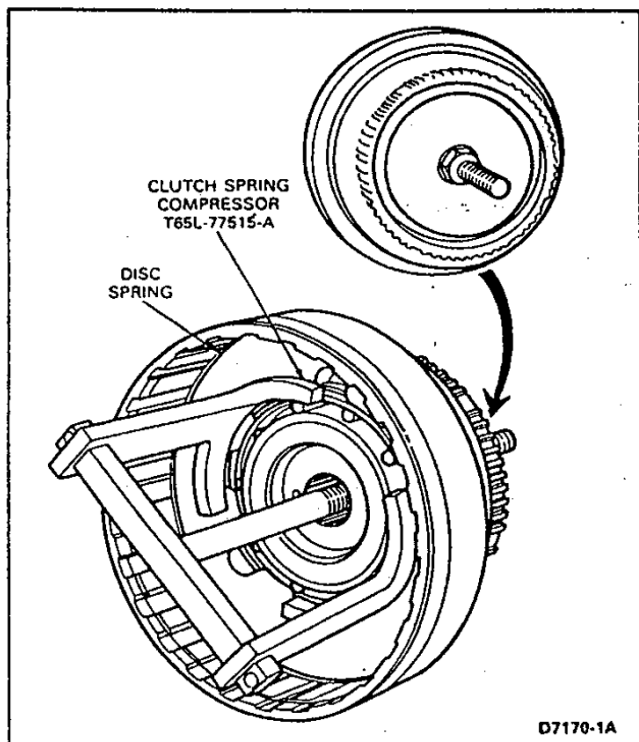

FIG. 49 Removing or Installing Disc Spring
3. Remove the snap ring (Fig. 49) that secures the disc spring in the clutch cylinder. Remove the disc spring and steel ring using Tool T65L-77515-A.
4. Make sure that the steel pressure ring is in the groove on the piston. Position the disc spring in the cylinder with the dished face downward. Install the spring as shown in Fig. 49 so that the